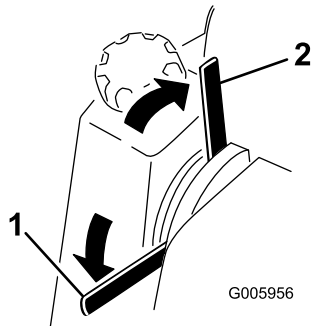

Figure 10
- To engage the parking brake, rotate the lever down (Figure 10).
- To release the parking brake, rotate the lever up (Figure 10).